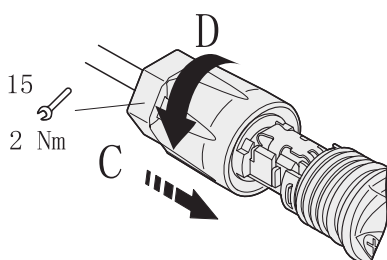

Fig. 50. Locking the connector.
5. Push the battery connector up to the threaded joint and use an open-end spanner to firmly lock the connector with a torque of 2 Nm, as shown in Fig. 50.